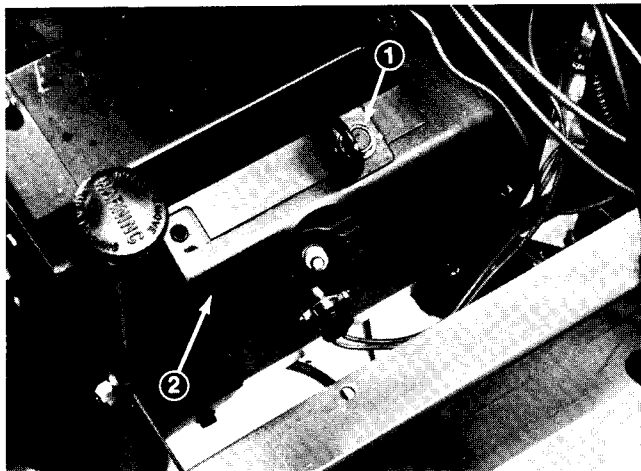

Figure 9
2. Remove the self tapping screw retaining the top of the sheet metal housing on the right side of the engine (Fig. 9).